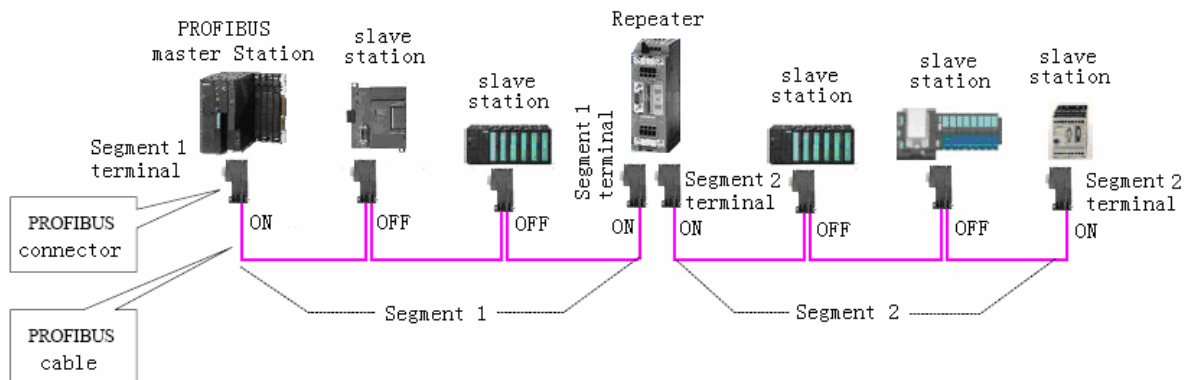

Fig.1-1 PROFIBUS fieldbus adopts bus network topological structure
1. As regulated in PROFIBUS Standards, bus network topology is adopted when RS485 is signaled. Network components like repeater and connector, and concepts like network segment, terminal, etc, are also presented in the Standards. As shown in Figure 1-1, when the cable is longer than the standard-length, or stations in the network are more than that regulated in the specifications, a repeater is needed to cut the bus into Segment 1 and Segment 2, the head and end of each segment are called terminals.